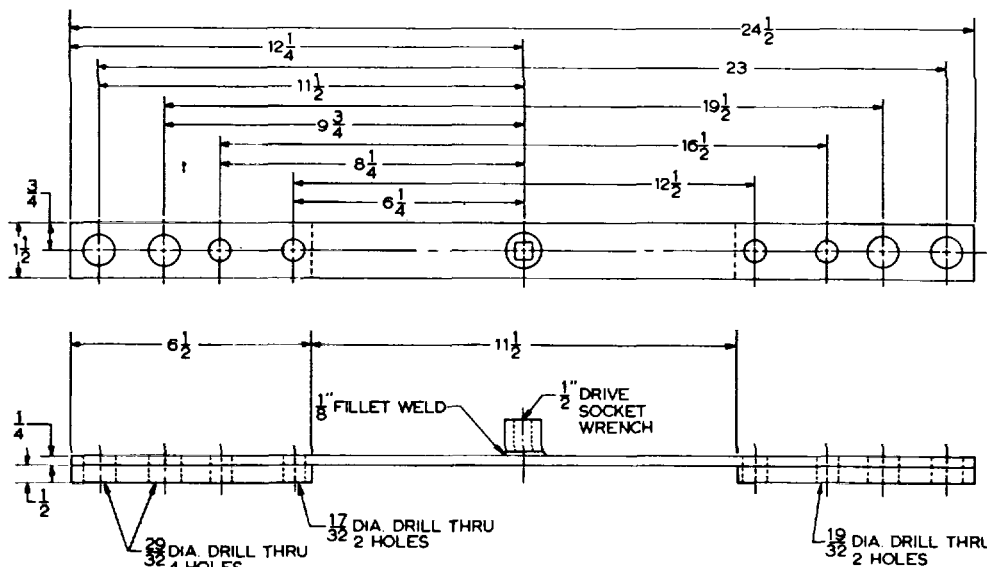

Fig. 33
- (2) Using the torque wrench adapter bar shown in Fig. 33, determine the rolling torque of the wheel end with the bearings in a no-load end play condition. Due to unbalance of parts, etc., there will be a variation of rolling torque as the wheel hub is rotated. Record the maximum value of rolling torque throughout a revolution. This figure is the "no-load rolling torque" value.
- (3) Using the following chart, tighten the adjusting nut to achieve a bearing pre-load in foot pounds above the "no-load rolling torque" value recorded. It is best to use the lowest pre-load value as the pre-load may increase when the Jam nut is installed and tightened. Also record wrench torque when tightening adjusting nut.